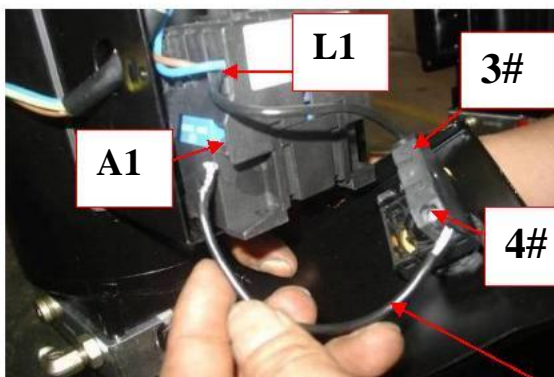
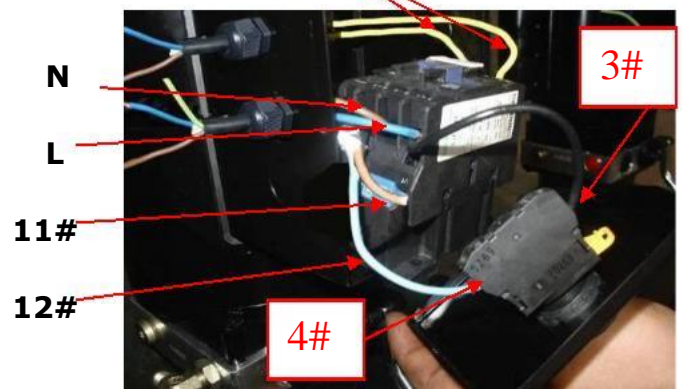

Fig. 37
Fig. 38
4. Connecting the limit switch: Removing the wire of connecting terminal **4#** of control button and **A1** of AC contactor firstly (See Fig. 37), then connecting wire **12#** (brown wire) of limit switch with terminal **4#** of control button and connecting wire **11#** (blue wire) with terminals **A1** of AC contactor respectively. Connecting the earth wire of limit switch to the earth wire terminal on the motor. (See Fig. 38).